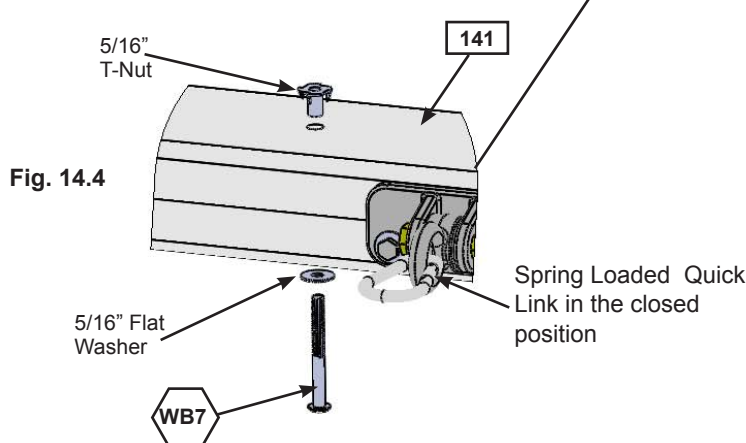

Fig. 14.4
**Caution:** The Spring Loaded Quick Link must be attached to the Heavy Duty Swing Hanger in the closed position. (fig. 14.4)